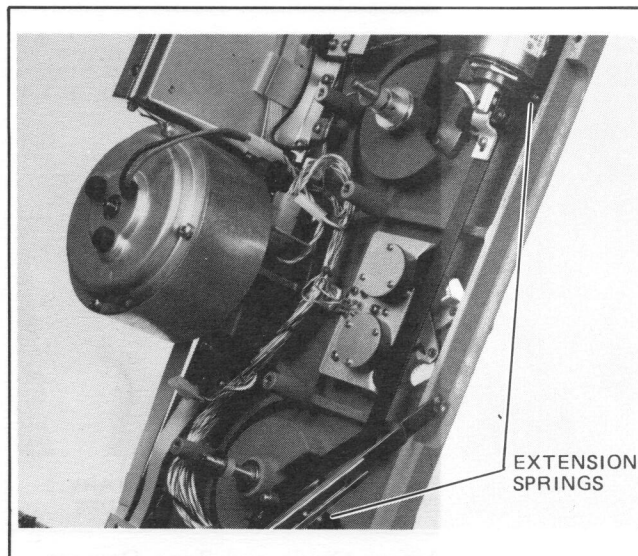

Figure 5-50. Bell Crank Extension Spring Removal
- Remove the extension springs from each bell crank as illustrated in Figure 5-50. Notice holes where springs are terminated for future reference.